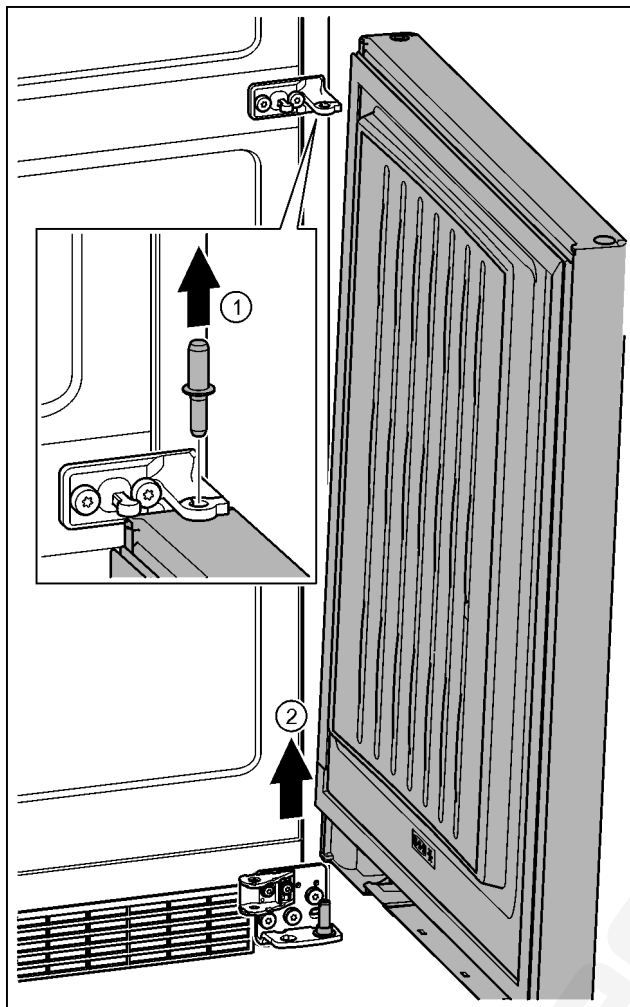

Fig. 24
- Pull out the bolts towards the top. Fig. 24 (1)
- Swing the door out, pull it upwards and set it aside. Fig. 24 (2)